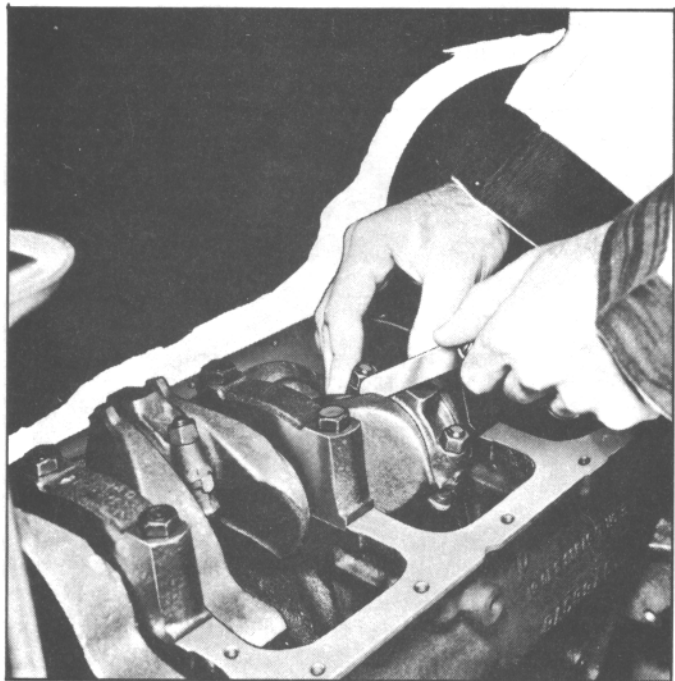
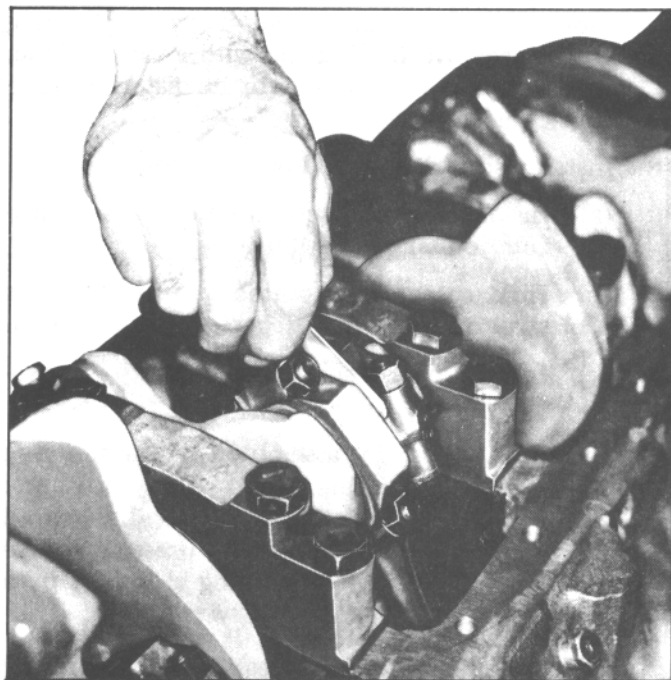

Fig. 85. Measuring Connecting Rod Side Clearance (In-Line)
Fig. 86. Measuring Connecting Rod Side Clearance (V8)
After connecting rods are installed and bearing cap bolts are torqued to specifications, check connecting rod side clearance (Fig. 85 & 86). See specifications for tolerance.
8. Measure all connecting rod side clearances (see specifications) between the connecting rod cap and side of crankpin on In-Line engines (Fig. 85) or between connecting rod caps on V-8 engines (Fig. 86).